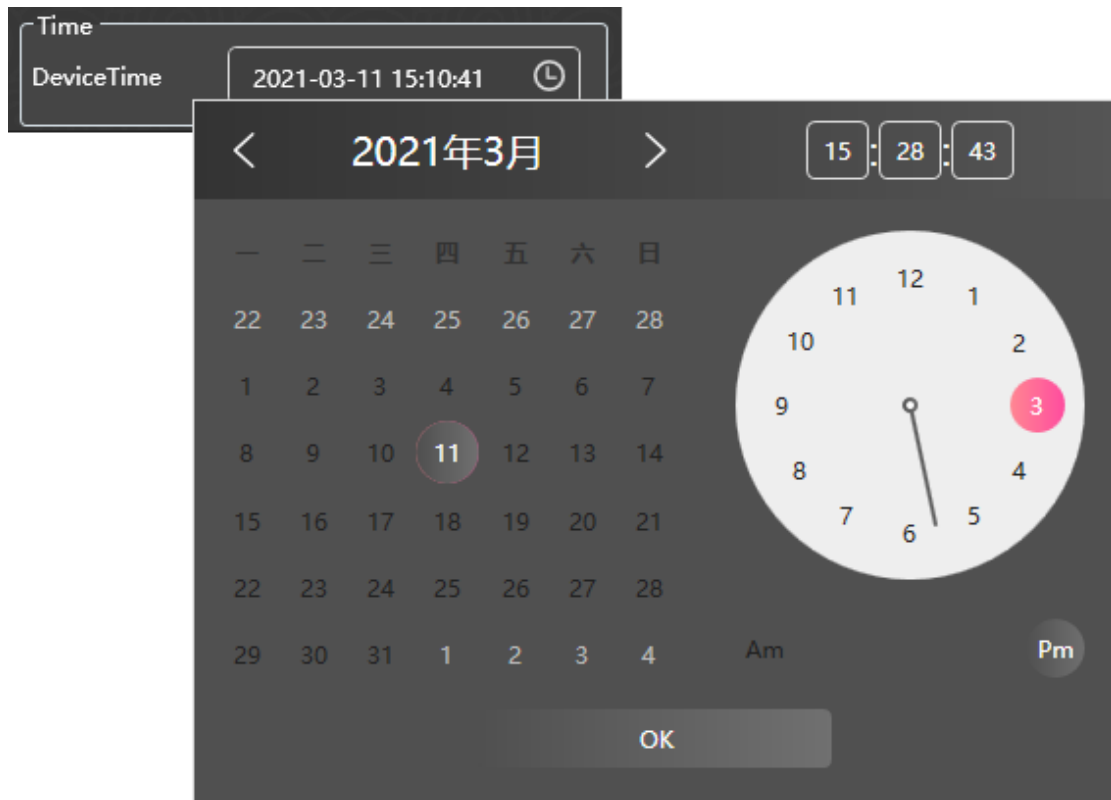

Figure 4.2-9 Timing Operation Window
- (1) Click System tab in Aurora1600-4K system to display the system configuration page, and click DeviceTime  button in Time box, then it will pop up the Timing dialog box, input your time at the top right field, as shown in Figure 4.2-9: